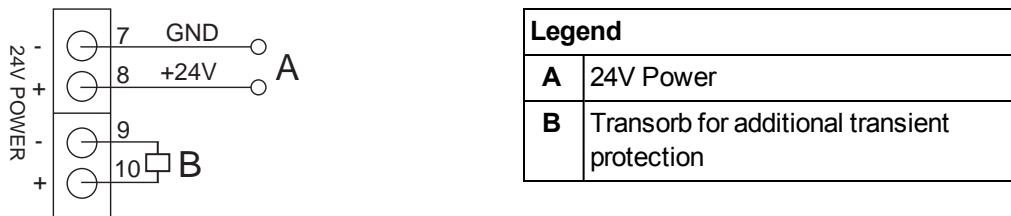

Figure 7-1: Wire connection details for the power terminals on the VN and RO model termination card
- The VESDA VLC-EX is provided with an additional transorb wired into the power terminals as shown in Figure 7-1. This transorb must have a clamping voltage of 55V or less and an breakdown voltage of 33V or more (Part number 3KP33CA from Littelfuse is a suitable example). This transorb must be fitted to ensure compliance with Clause 13 of EN60079-15:2010.